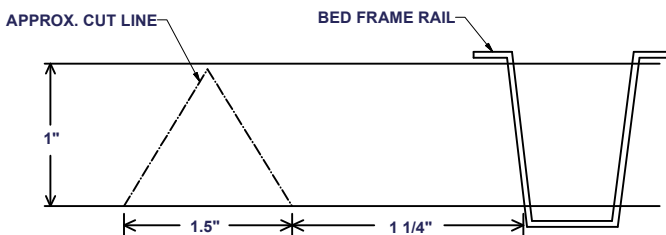
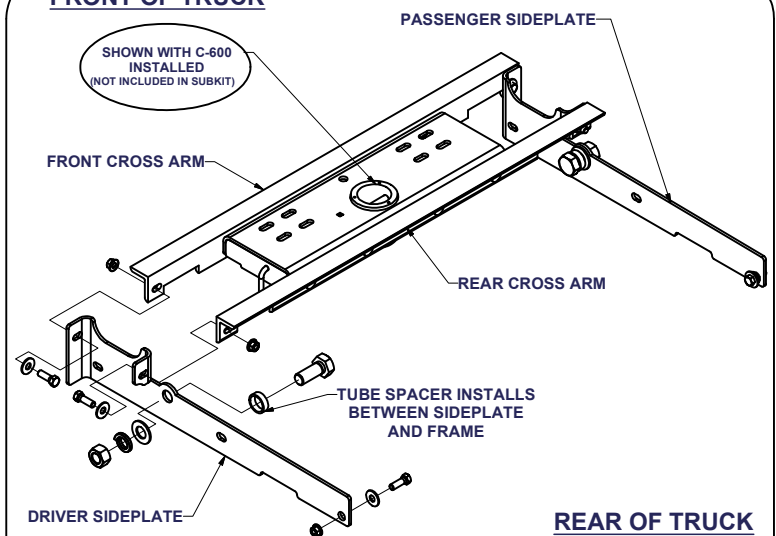

FIGURE 1
FIGURE 2
- 4) Install the rear cross arm(**has the deepest notches at the ends**) by sliding it between the bed and the frame on the passenger side in an inverted V position. In order to do this, the bed floor flange must be cut about 2" to the rear of the front most bed frame rail (As shown in **Figure 1**) (**NOTE: the notches must face the front of the truck**) After it rests on the frames, slide it towards the back of the truck. Rotate the arm so the notches are perpendicular to the truck bed. This process is made easier by loosening the bed bolts in the frame rails behind the axle and using a crescent wrench or channels locks on the slotted side of the cross arm to rotate it down on its long axis, placing the side without slots flush against the truck bed floor and the cut-outs span the truck frame.
- 6) Before raising the center section in position between the cross arms **with the ball cylinder towards the back of truck.** drop the back exhaust hanger. The round hitch receiver that protrudes from the top of the center section must fit through the hole in the truck bed. Using (8) 1/2" carriage bolts, attach the center section to the holes in both cross arms. **Finger tight only** with (8) 1/2" flange nuts. When re-attaching exhaust hanger, bend upward to adjust if tailpipes touch the center section.
- 7) Square the center section and cross arms across the frame. Place a 1 1/2" bolt with a washer through the back flange of the sideplate into the rear cross arm and **Finger tight only** with a 1/2" flange nut. (As shown in **Figure 2**) Place a 1 1/2" bolt with a flat washer through the front flange of the sideplate into the front cross arm. (As shown in **Figure 2**) **Finger tight only** with a 1/2" flange nut. (**REPEAT FOR OTHER SIDE**) (**NOTE: locate and release the brake line and fuel line retaining clip from the frame rail on the driver side before attaching driver sideplate.**) If bed bolts were loosened in step 4, re-tighten them now.
- 8) **Trucks without overload springs:** Align the large 1" hole and the rear hole on each sideplate to the existing holes in the truck frame. Place a 1" bolt with a 1" washer through the inside of the frame. Place the tube spacer between the frame and sideplate and attach a 1" washer, 1" lock washer, and 1" nut on the outside of the sideplates and **Finger tight only**. (As shown in **Figure 2**) On the rear of the sideplate, place a 1/2" x 1 1/2" bolt through the inside of the truck frame through the sideplate and attach with a 1/2" flange nut. (As shown in **Figure 2**) **Finger tight only**.